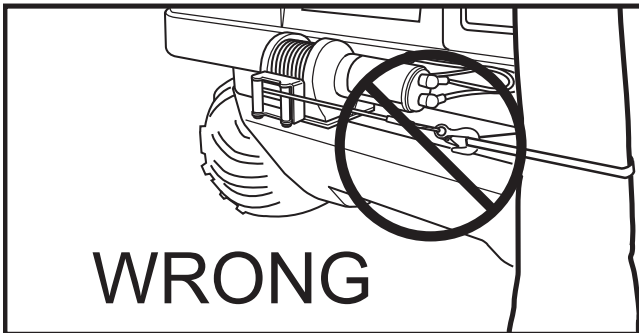
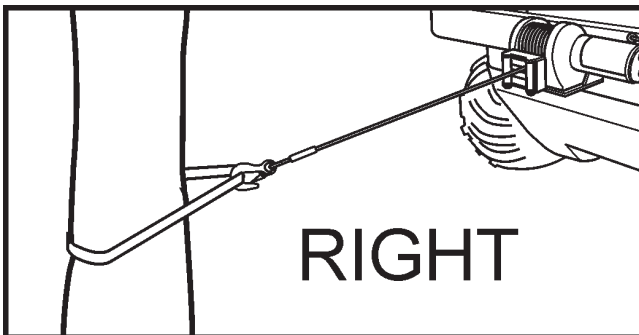

Figure 11-18. Incorrect positioning for continuous pulls.
Figure 11-19. Correct positioning for continuous pulls.
11. Avoid continuous pulls from extreme angles as this will cause the wire rope to pile up at one end of the drum (Figure 11-18 and figure 11-19). This can jam the wire rope in the winch causing damage to the wire rope or the winch itself.